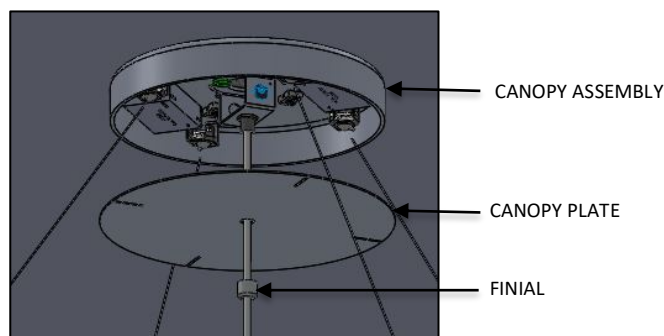

FIG. 16 - FINIAL INSTALLATION
7. Raise CANOPY PLATE and secure to ceiling by threading the FINIAL until fully seated as shown in FIG. 16.